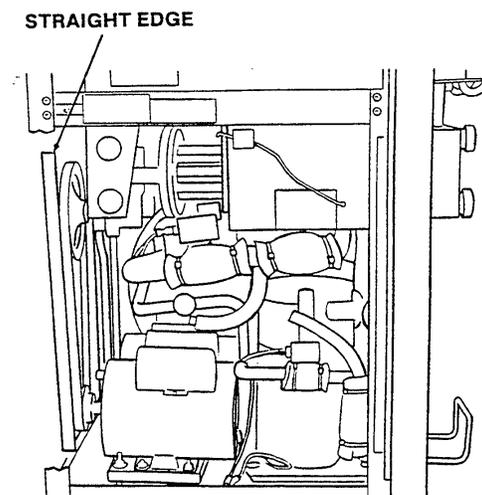

Figure 67. Speed Reducer Adjustment
- Align the speed reducer pulley with the motor pulley and fully tighten the setscrew (Figure 67).